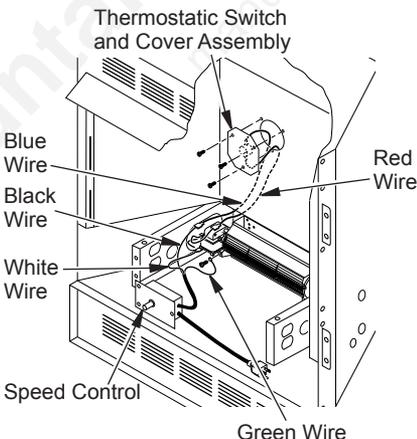

Figure 18 - Installing Switch and Cover Assembly and Speed Control
2. Using screw provided, attach green ground wire from speed control cord to blower housing. Tighten screw securely (see Figure 18).
4. Remove the three screws (do not discard) and cover plate from center of firebox wrapper rear wall. Discard this cover plate (see Figure 18).
5. Mount the supplied thermostatic switch and cover assembly into firebox wrapper wall. Do this by feeding terminal ends of wire harness into the hole. Allow wires to fall to bottom of firebox cavity (see Figure 18).
6. Using three screws from step 7, attach switch and cover assembly to firebox wrapper rear wall. Tighten screws firmly (see Figure 18).
7. Firmly attach red wire from the thermostatic switch and cover assembly to either of the terminals on the blower motor (see Figure 18).
8. Firmly attach black wire from speed control cord to blue wire from thermostatic switch and cover assembly (see Figure 18).
9. Firmly attach white wire from speed control cord to remaining terminal on blower motor (see Figure 18).